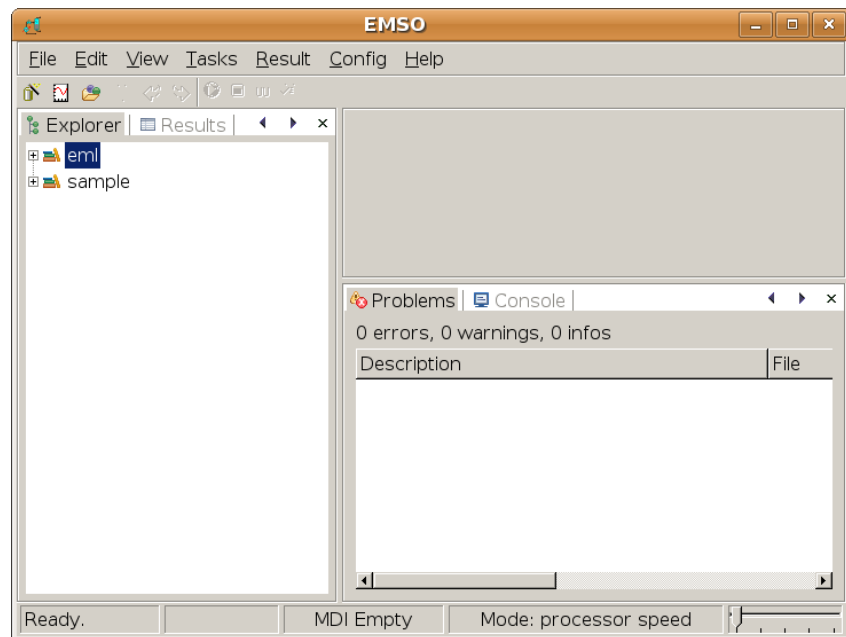

Figure 2.1: EMSO graphical user interface.
After EMSO is started a graphical user interface, as showed in Figure 2.1, raises.
The Explorer and Results windows are in the left most vertical frame of the interface in Figure 2.1.
**Tip:** The position of the frames in Figure 2.1 can be freely interchanged, right click on the tab button of the window to change its position.